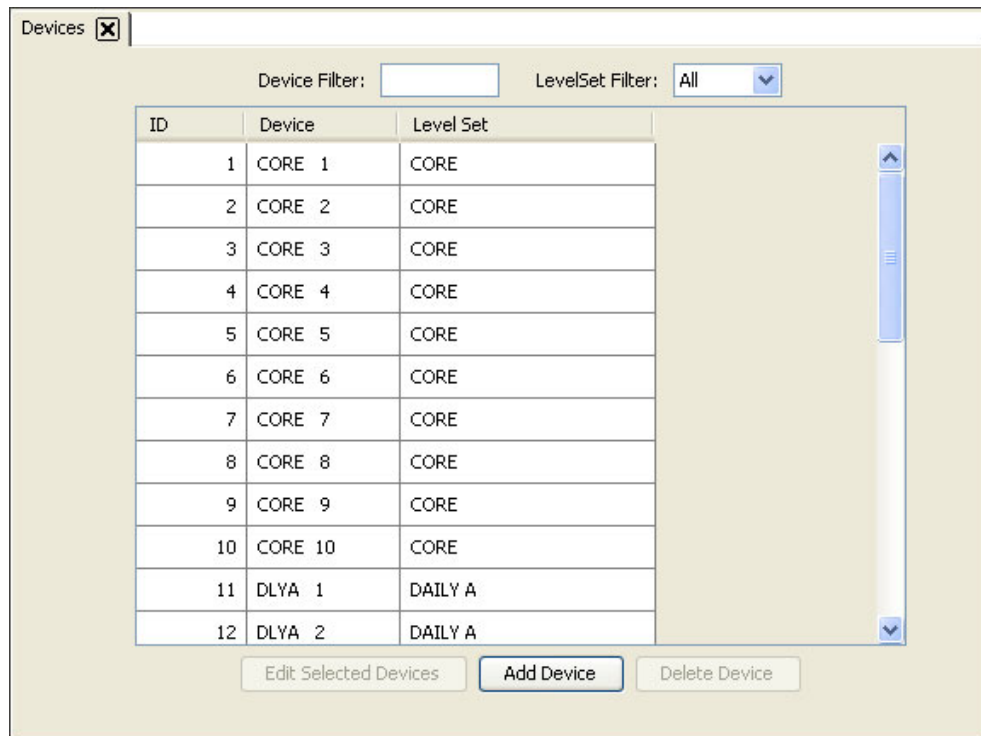

Figure 9-14. Devices Page
- 2 From the Navigation area, select the 'Configuration' pane and then 'Devices'. The 'Devices' page displays, as shown in Figure 9-14.